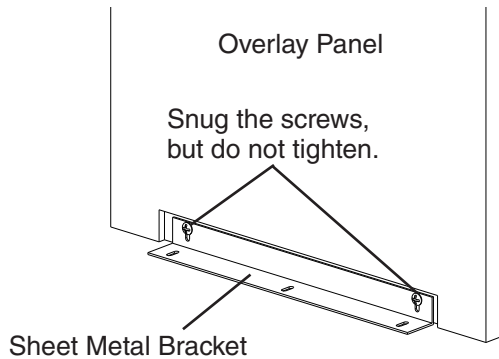

Fig. 20
- 1) Fasten the sheet metal bracket to the overlay panel using the two M4×8 truss head screws provided. **Snug the screws, but do not tighten.** See Fig. 20.